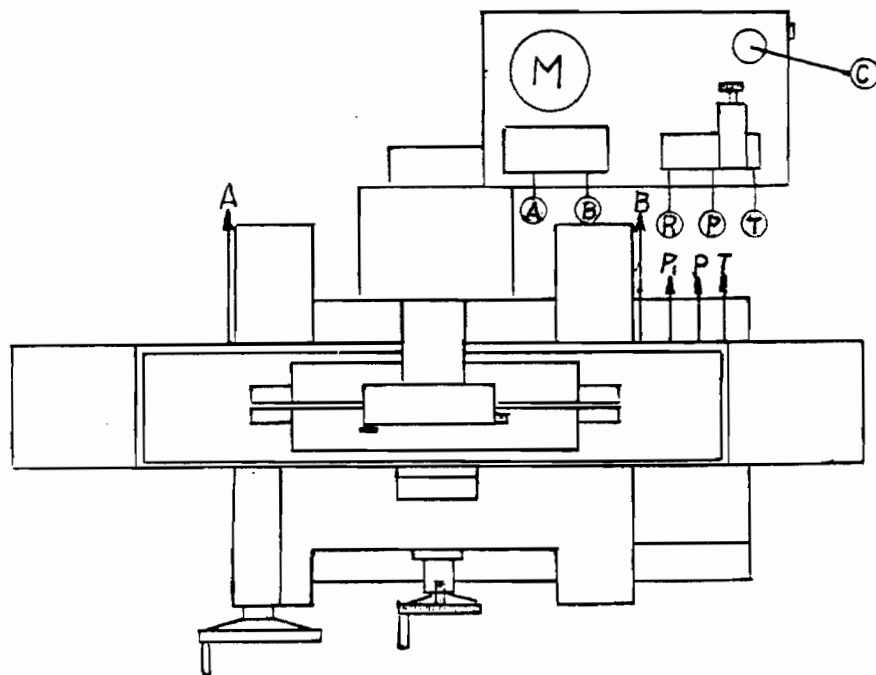

Fig.6
D. Standard wheel markings: (Fig. 6)